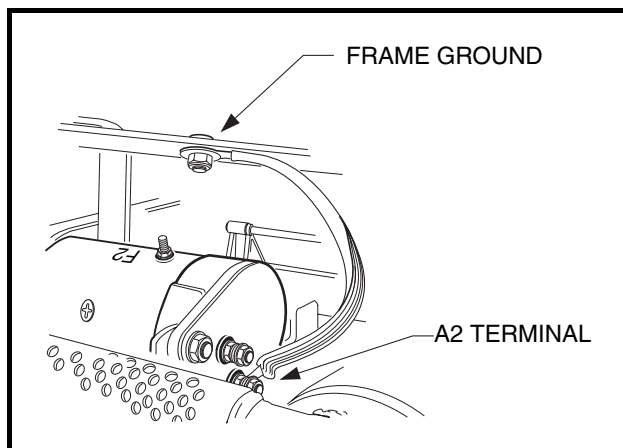

Figure 11-4 Starter/Generator Ground Cable Test
- 2.1. Set the multimeter to 200 (ohms). Place the red (+) probe on the A2 terminal of the starter/generator and place the black (–) probe on the vehicle frame (**Figure 11-4, Page 11-11**). The reading should be continuity. If there is no continuity, clean and tighten cable connections. If the connections are good, repair or replace the cable.